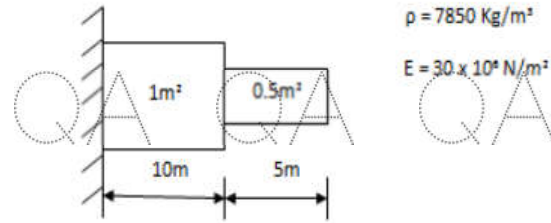

Figure 5
b) Determine the Eigen values and Eigen Vectors for the stepped bar as shown in figure 5. [2+8]